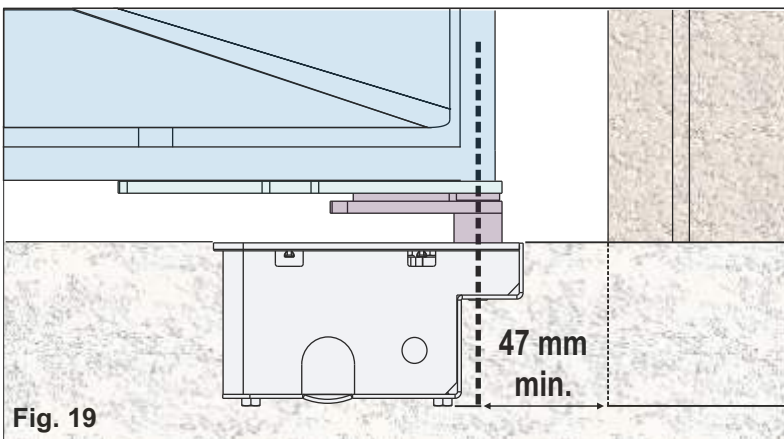

Fig. 19
**⚠ NE PLACEZ PAS LE VANTAIL EN DEHORS DES AXES (FIG. 15); FAIRE COÏNCIDER LA TIGE AVEC L'AXE DE ROTATION DE LA CHARNIERE DU VANTAIL; LA DISTANCE MINIMALE DE LA COLONNE DOIT ÊTRE DE 47 mm (FIG.19) )